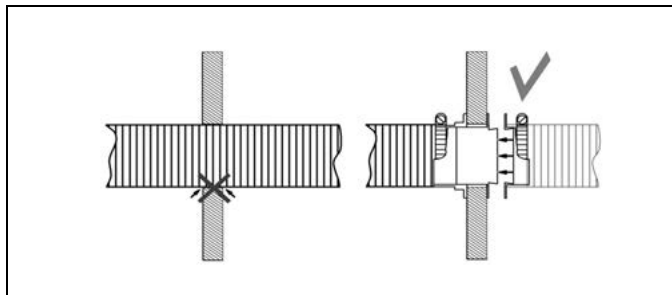

Fig. 11 Recommended duct lead-through in bulkheads
- Use wall lead-through as shown in Fig. 11.